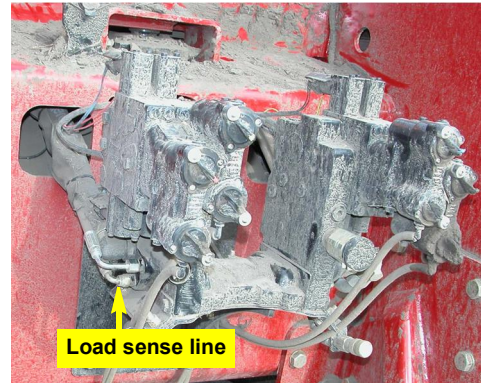

Figure 5b: Load sense line location
- b. Locate the tractor load sense line on the back of the tractor; it is the lower left line on the valve stack (Figure 5b).